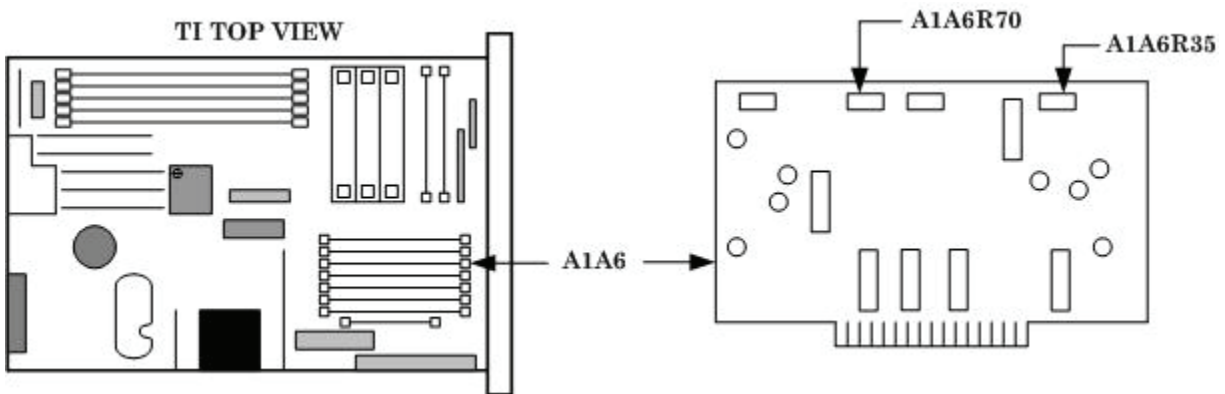

Figure 11. FM Adjustment locations.
- (2) Press TI keys as listed in (a) through (g) below:
- (3) Set the audio analyzer to produce a 100 kHz, 0.01 V LEVEL STEP size, 1.414 V output with 600 Ω output impedance, then select special function 17.
(4) Set measuring receiver for an **FM** measurement and **300 Hz HP FILTER**, **3 kHz LP FILTER**, and **+PEAK** detector.
(5) Adjust A1A6R35 (fig. 11) for an indication of  $100.0 \pm 1$  kHz FM deviation on the measuring receiver (R).
(6) Adjust A1A6R70 (fig. 11) until TI meter indicates 100 kHz FM deviation (needle at full scale) (R).